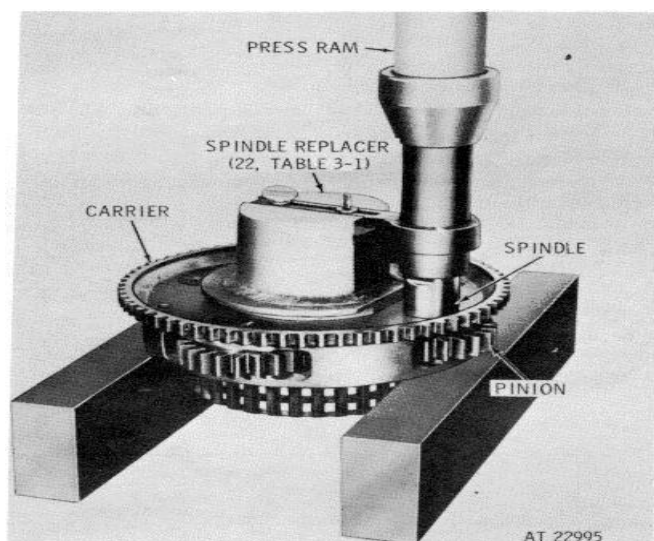

Figure 7-11. Installing spindle into intermediate-range planetary carrier.
g. Using replacer (22, table 3-1), install planetary carrier pinion spindle (31.8, FO-4). Press the spindle flush with, to 0.010 inch below, the spindle bore surface of the carrier. Refer to figure 7-11.